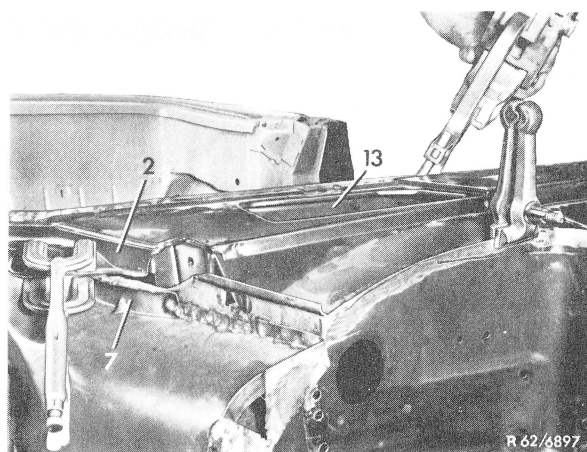

Figure 9
**30** Spotweld center piece outside under windshield and connection sheet (7) and weld (Fig. 9).